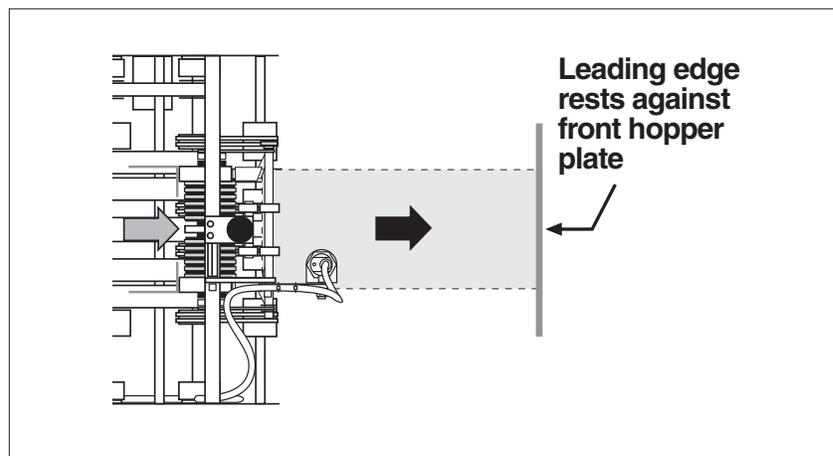

Figure 26. Moving the First Sheet Into Position
2. Use your finger or thumb on the drive belt or one of the feed rollers to manually move the bottom sheet of material through the gate assembly area and under hold-down springs. Continue until material leading edge is in-line with front hopper plate, then stop (Figure 26).